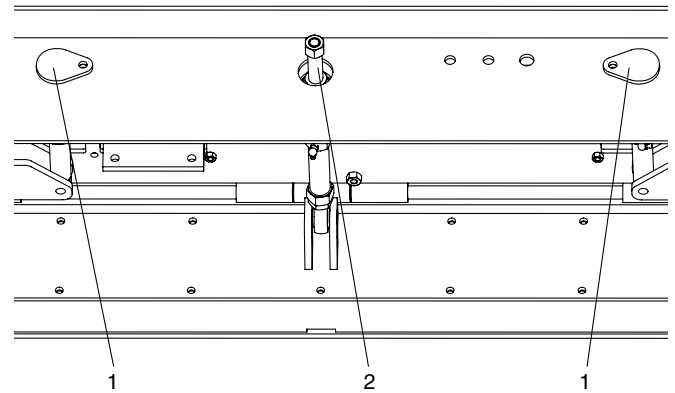

Figure 4-45. 815HD Mat Texture Double Adjusters
2. Adjust tilt on the rear edge of the extension by turning Angle of Attack (AOA) Adjuster (**Figure 4-44,1 and Figure 4-45,2**) counterclockwise (CCW). This is done to give the same amount of compaction and slickness on the extension and main screed.
3. If drag occurs in center of the screed, then too much pressure is on the screed extension and the extension is carrying all the weight. Correct this by turning the Angle of Attack (AOA) Adjuster clockwise (CW) until both the screed and the screed extension produce the same mat texture.
The screed should be hot before making any adjustments. The screed can be adjusted for a smoother or coarser mat texture by using the mat texture adjusters (**Figure 4-44,1; Figure 4-45,1,2**). Make sure the bottom of the screed is sprayed down before making any texture adjustments (**see "Spray Down" on page 4-26**).